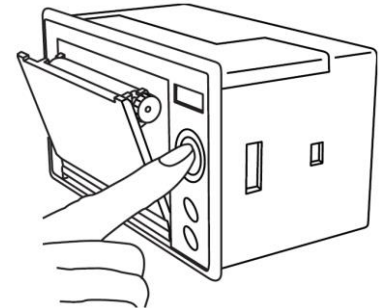

Fig.29-6
1. As Fig.29-6, press the key to open the front cover.